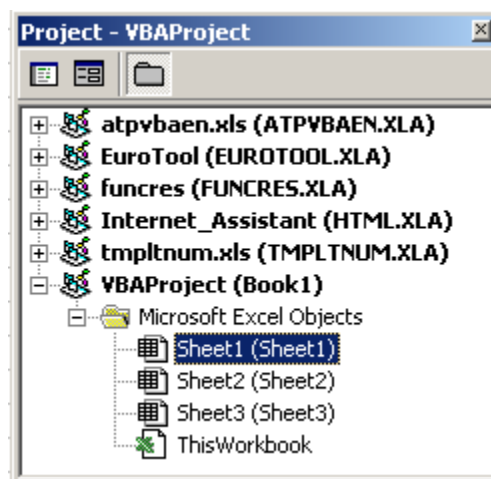

Figure 2 Excel's Project Explorer window
- 7 Select 'Project Explorer' from the *View* menu. The project explorer window will open and look something like Figure 2: